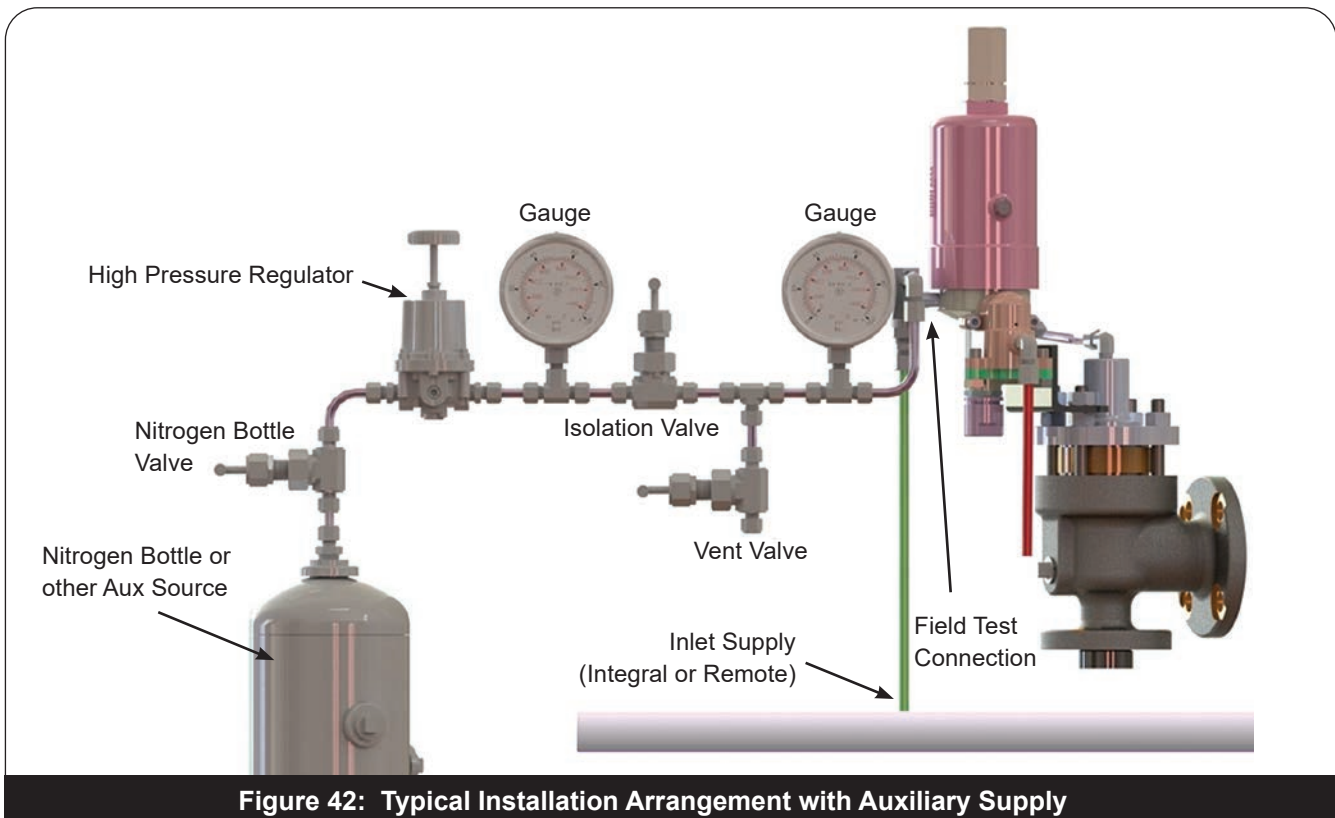

Figure 42: Typical Installation Arrangement with Auxiliary Supply
2. Connect **Field Test Arrangement** to **Field Test Connection** (Figure 42).